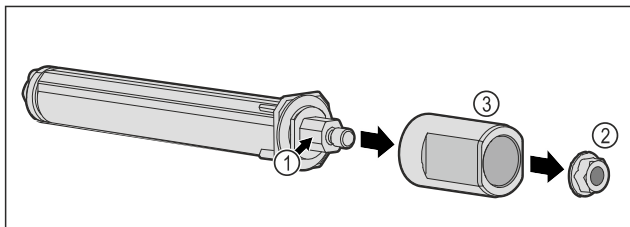

Fig. 54
- ▶ Do not disassemble the door locking system Fig. 54 (1).
- ▶ Remove the Fig. 54 (2) nuts.
- ▶ Take off the Fig. 54 (3) sleeve.